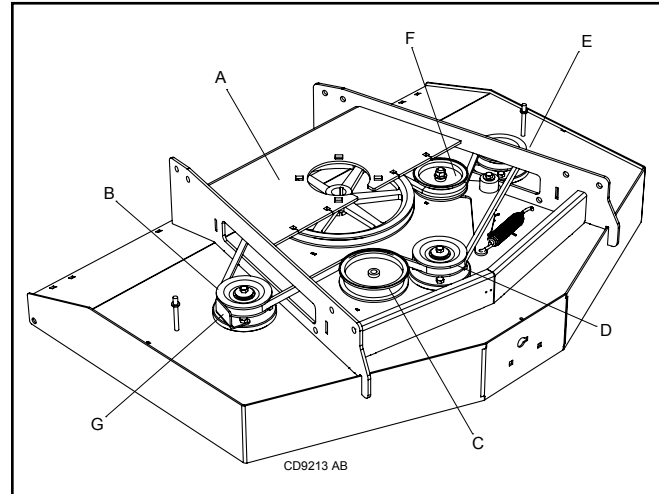

Figure 11. Belt Routing
1. Route belt around spindle sheave B, back side idler C, and spindle sheave D as shown in Figure 11.